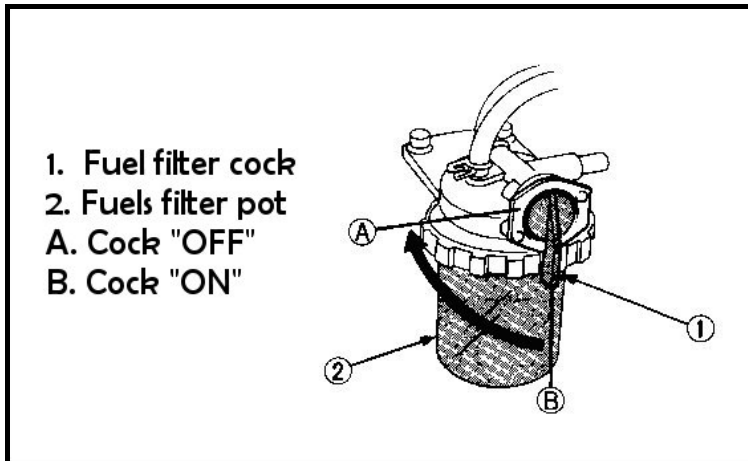

Figure 6.3 | The fuel filter
4. Retighten the screws when fuel without bubbles comes out (see Figure 6.3)